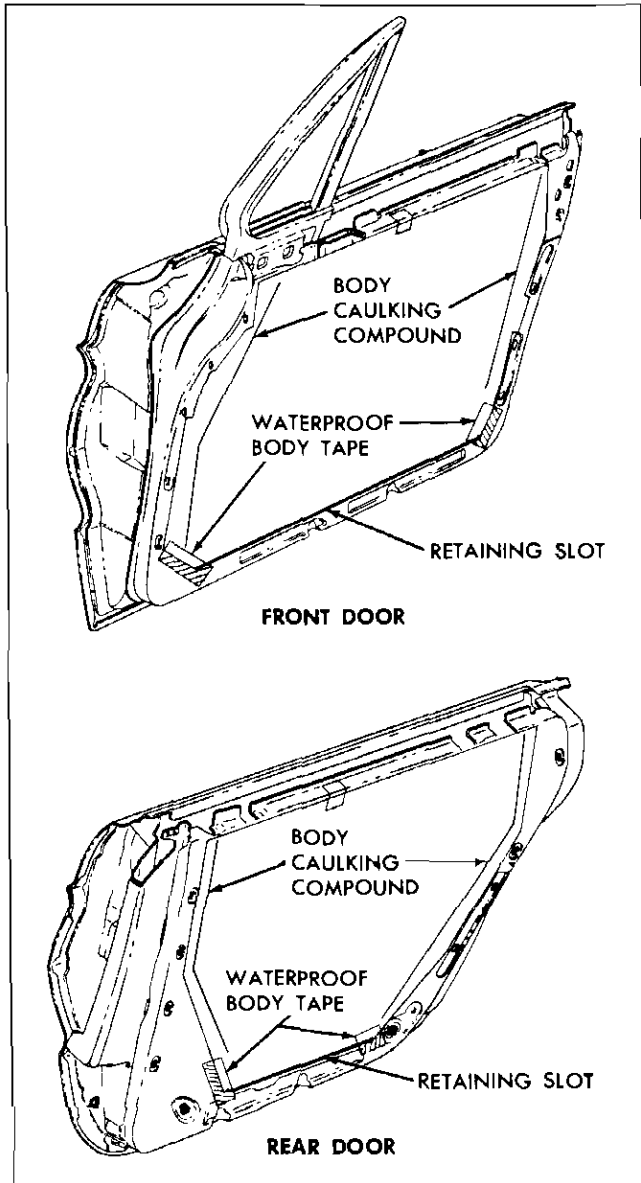

Fig. 2-10 Door Water Deflector Sealing
2. Remove strips of waterproof body tape securing lower corners of water deflector (Fig. 2-10).
proximately $\frac{3}{16}$ " diameter) to door inner panel along line contacted by front and rear edges of water deflector (Fig. 2-10).
5. Seal lower corners of deflector with 2" or $2\frac{1}{2}$ " waterproof body sealing tape (Fig. 2-10).